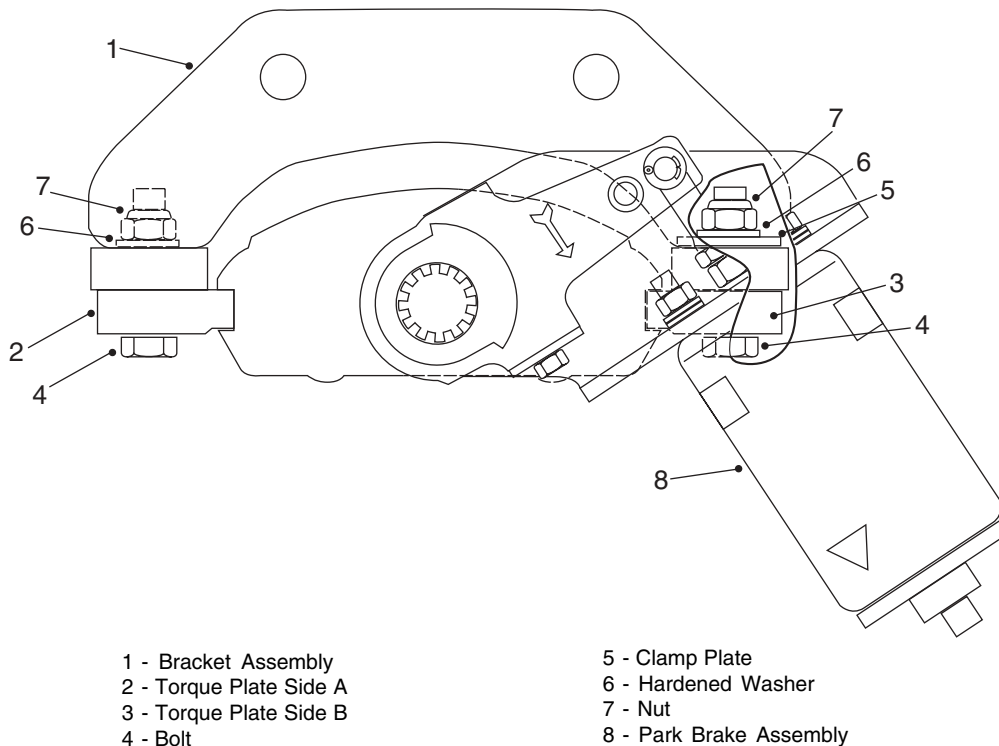

Fig. 3 - Assembling Parking Brake Mounting
1. Assemble bracket assembly (1, Fig. 3) and torque
plate side A (2, Fig. 3) and secure with bolts (4, Fig. 3), hardened washers (6, Fig. 3) and nuts (7, Fig. 3).
2. Install park brake assembly (8, Fig. 3) and push park brake assembly (8, Fig. 3) hard against torque plate side A (2, Fig. 3). Slide torque plate side B (3, Fig. 3) into the slots of park brake assembly (8, Fig. 3).
3. Secure torque plate side B (3, Fig. 3) by installing bolts (4, Fig. 3), clamp plate (5, Fig. 3), hardened washers (6, Fig. 3) and nuts (7, Fig. 3).
4. Install a feeler gauge of 0.635 mm (0.025") between park brake assembly (8, Fig. 3) and torque plate side B (3, Fig. 3) to obtain clearance as shown in Fig. 3.
6. Attach suitable lifting device and position bracket assembly (1) and calliper head assembly (2) over brake disc. Secure bracket assembly (1) to mounting bracket on the frame with bolts (4), washers (5) and nuts (6). Tighten nuts (6) to a torque of 745 Nm (550 lbf ft).